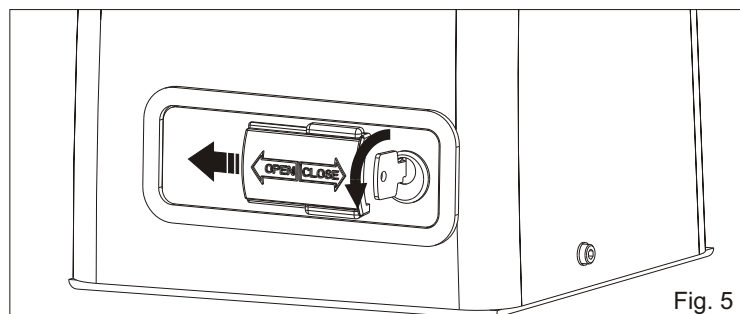

Fig. 5
- Put the key in and turn it to open the small door which protects the release lever (Fig. 5).